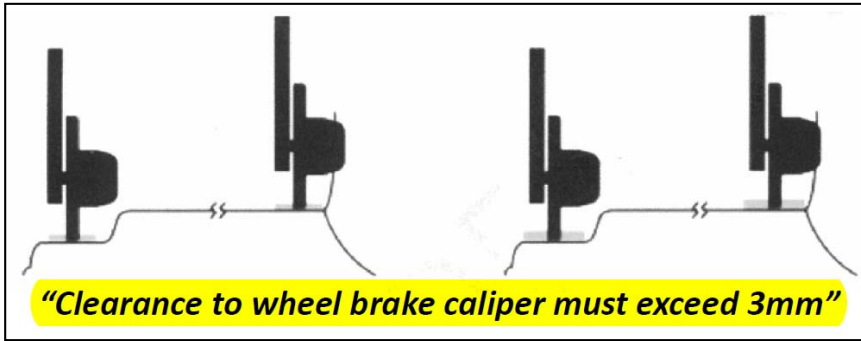

Figure 8
**Note: When inputting weight planes, center the rolling wheel of the inner dataset arm with the center of the desired weight location. See Figure 8.**